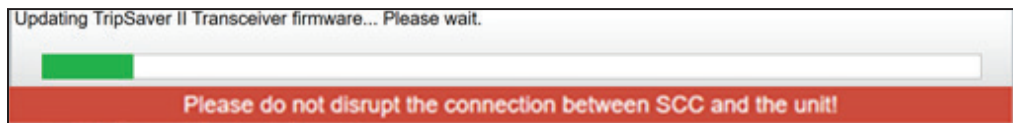

Figure 5. The firmware update progress bar.
- Updates the firmware (See Figure 5.)